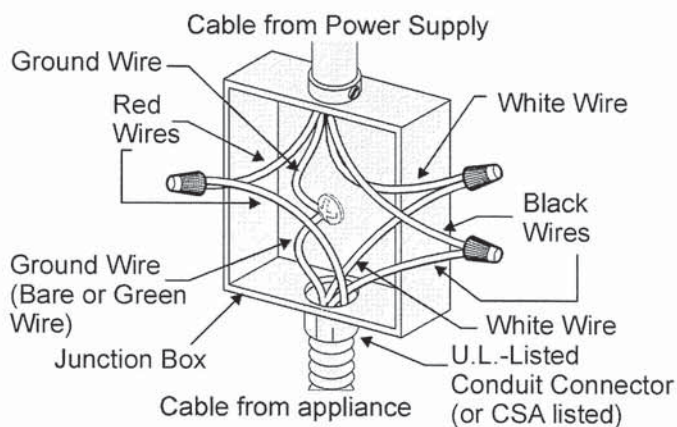
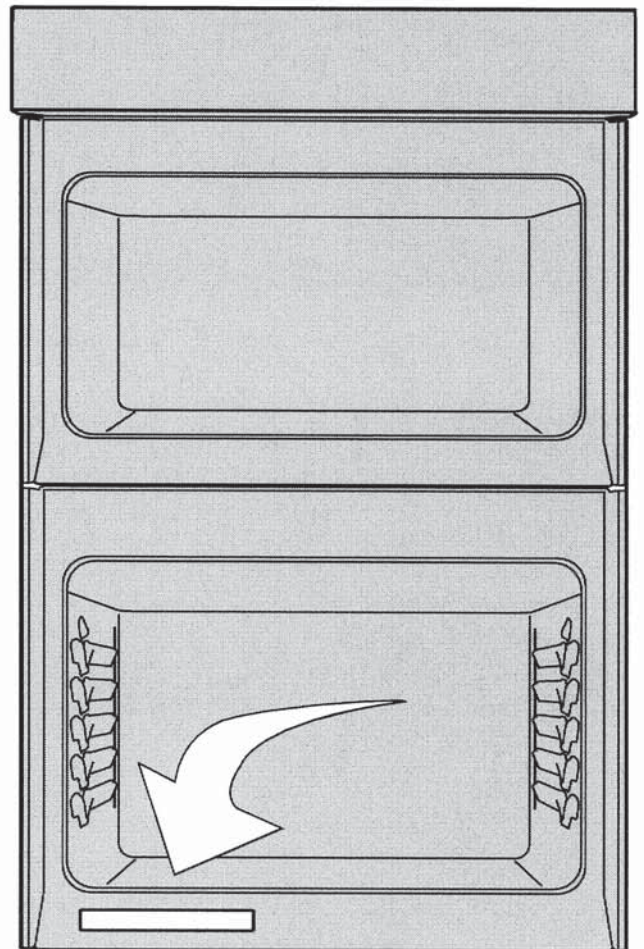

Figure 4: 4-wire grounded junction box
Figure 5: Serial Plate Location
This appliance is manufactured with a white neutral power supply and a frame connected copper wire. The frame is grounded by connection of grounding lead to neutral lead at the termination of the conduit, if used in USA, in a new branch circuit installation (1996 NEC), mobile home, recreational vehicles, where local code do not permit grounding through the neutral (white) wire or in Canada, disconnect the white and green lead from each other and use ground lead to ground unit in accordance with local codes, connect neutral lead to branch circuit-neutral conductor in usual manner see Figure 5. If your appliance is to be connected to a 3 wire grounded junction box (US only), where local code permit connecting the appliance-grounding conductor to the neutral (white) see Figure 4.
connect appliance and power supply cable wires as shown in Figure 4.
If oven is used in a new branch circuit installation (1996 NEC), mobile home, recreational vehicle, or where local codes DO NOT permit grounding through the neutral (white) wire, the appliance frame **MUST NOT** be connected to the neutral wire of the 4-wire electrical system (see Figure 4):
3. In the junction box: connect appliance and power supply cable wires as shown in Figure 4.